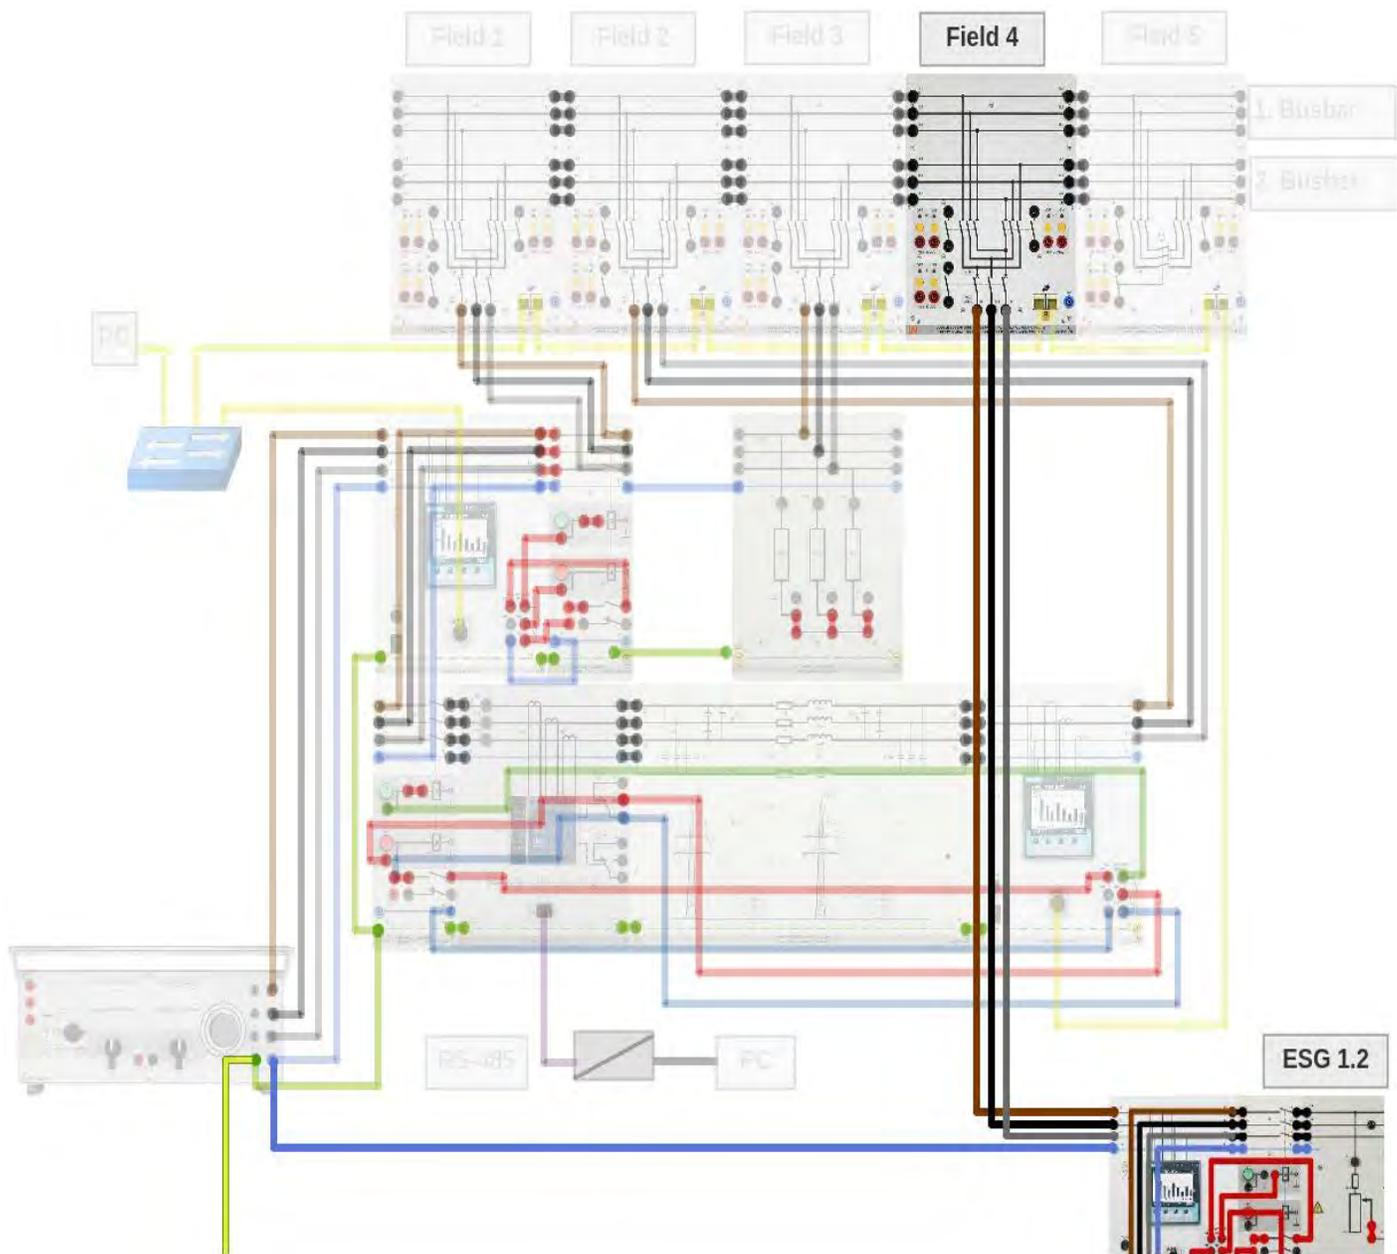

Figure 11:
1. Assemble the circuit in accordance with the layout and wiring diagram of Figure 11.